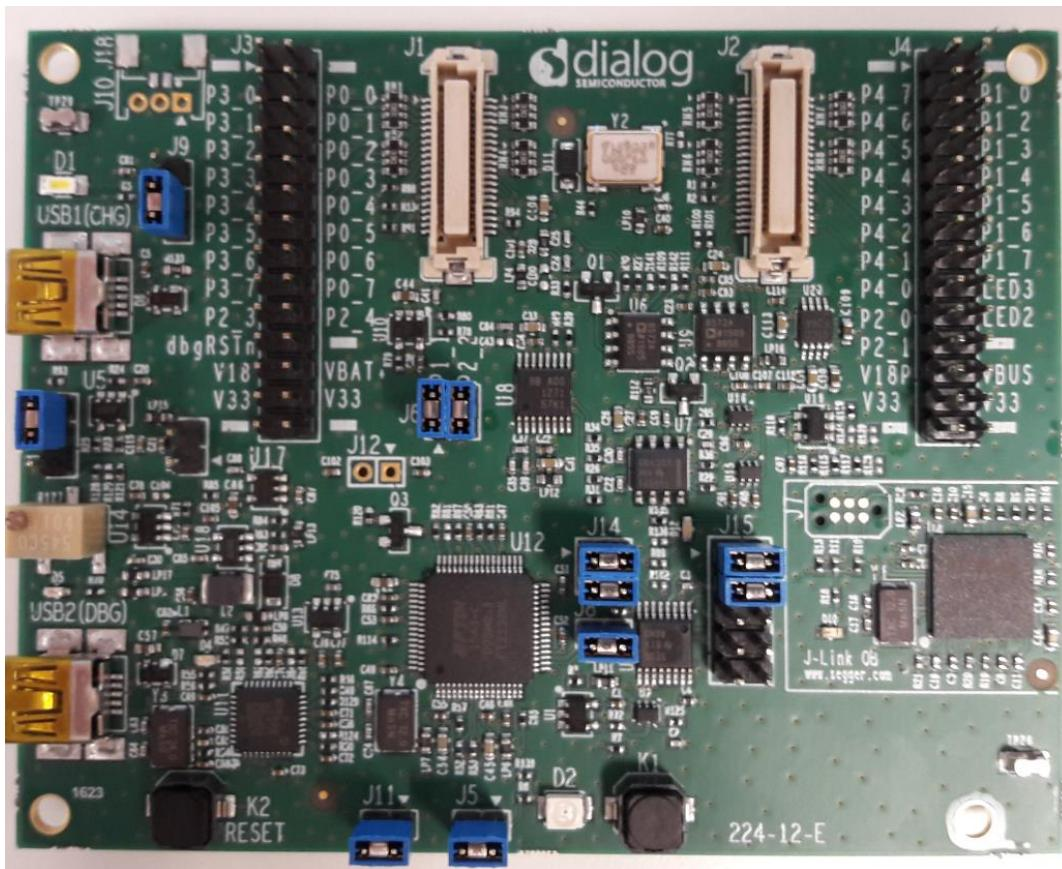
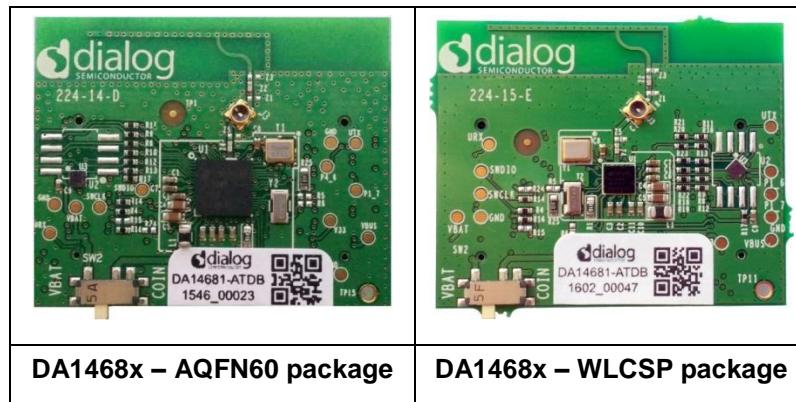

Figure 1: The DA1468x ProDK
Figure 2: The daughter-boards a) QFN60 and b) WLCSP to combine with the DA1468x ProDK Development Kit
Figure 1 illustrates the physical layout of the ProDK. The two (2) daughter boards containing DA1468x devices (AQFN60 as well as WLCSP packages) are shown in **Figure 2**.
The ProDK mainboard can be combined with one of the two daughter-boards shown in Figure 2. These daughter boards allow evaluation of the two different package options for the DA1468x devices. The daughter-boards each have a switch to select the power supply for the device: